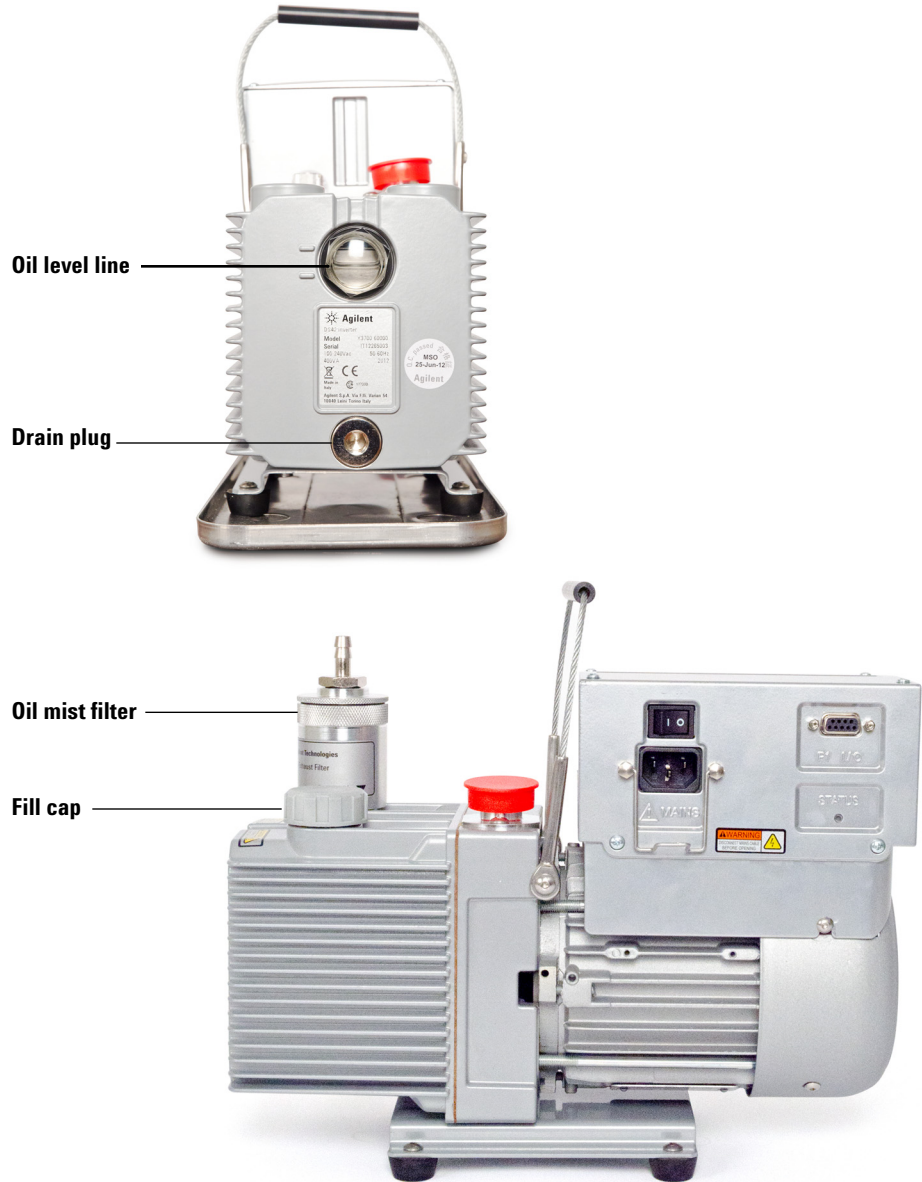

Figure 7 DS42 Foreline pump
- 1 Examine the oil level window (Figure 7).
- 3 Remove the fill cap. See Figure 7 on page 100.